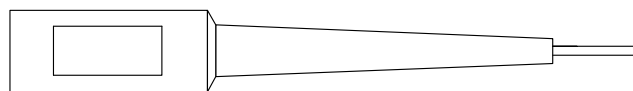

Figure 63. Narrow Test Probe
- Meter test leads that are capable of measuring voltage inside a connector without damaging the socket. A set of black and red test leads for this application are available from the manufacturer. Contact your nearest servicing dealer for more information. See Figure 63.